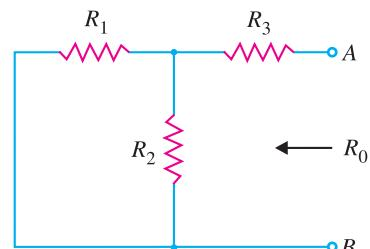

Fig. 1.26
**(ii) Finding  $R_0$ .** This is the resistance between terminals A and B with load removed and e.m.f. reduced to zero (See Fig. 1.26).